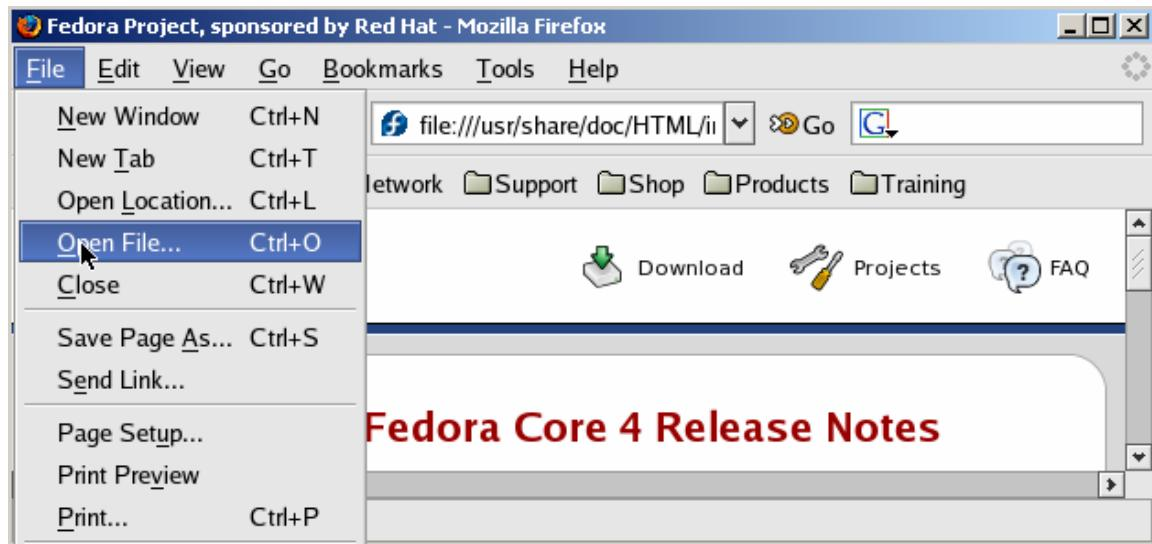

Figure 2: Open a file in a Web Browser.
3. Go to File... Open File (Figure 2).